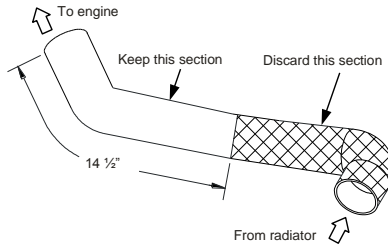

Figure 5.14
- ☐ Measure and cut the upper radiator hose 14-1/2" from the engine side. Save the engine-side piece. (Figure 5.14)